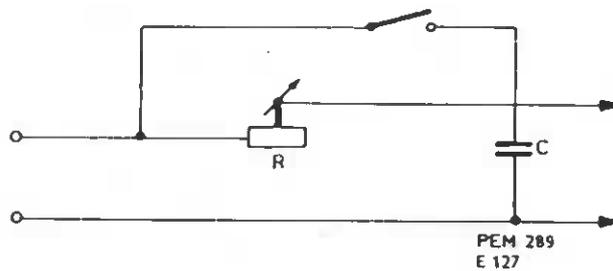

Fig. 8. Network for quadrant determination
- Include a circuit as shown in Fig. 8 into the lead to the X amplifier with closed switch.